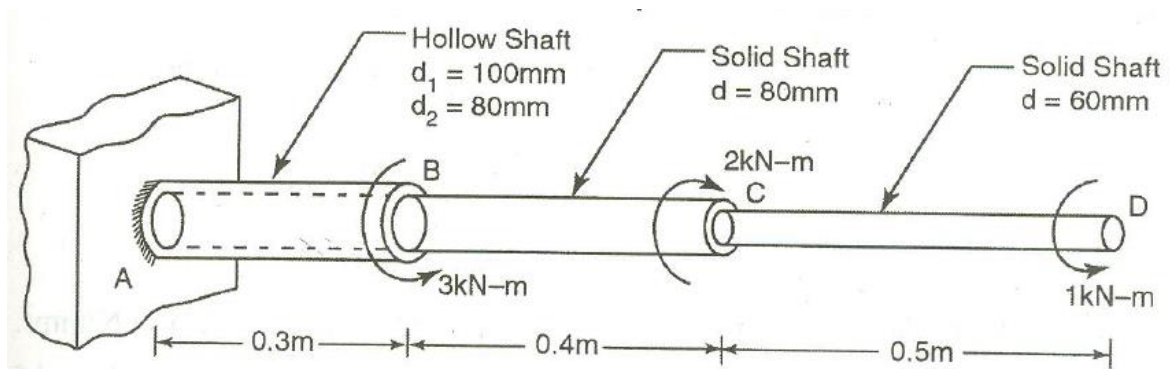
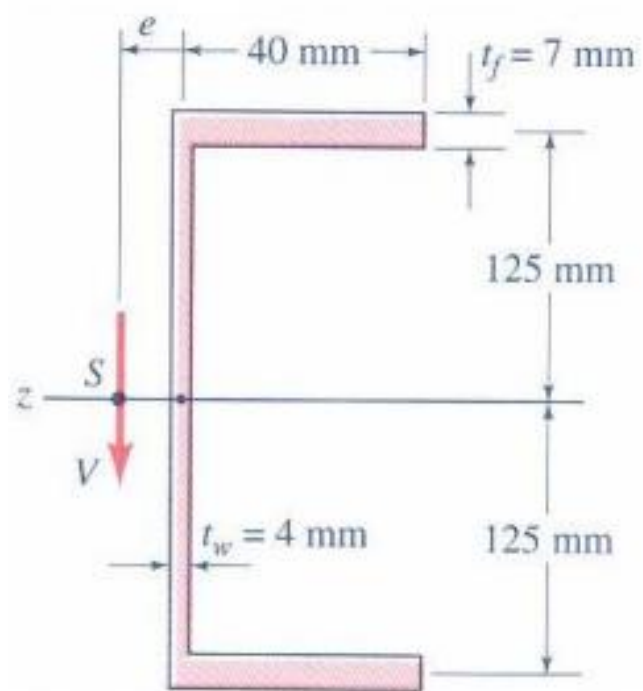

Fig.3.
Fig.4.
- 3C.** Derive an expression for the Euler's crippling load for a long column with both ends are fixed. (4)
- 4A.** Define polar modulus of section. Find the expression for polar modulus for a hollow shaft and for a solid shaft. (2)
- 4B.** Prove that a hollow shaft is stronger and stiffer than the solid shaft of the same material, length and weight. (4)
- 4C.** A stepped shaft is subjected to torque as shown in fig.3. Determine the angle of twist at the free end. Take $G = 80 \text{ GPa}$. Also find the maximum shear stress at any step. (4)
- 5A.** How will you determine the shear centre for channel section and I-section? (2)
- 5B.** Determine the position of shear centre for the channel section shown in fig.4. (4)